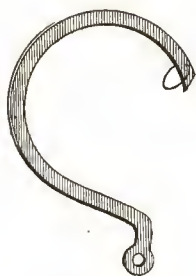
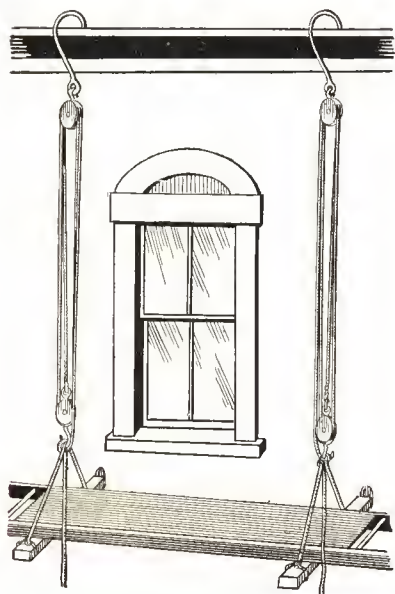

FIG. 42
FIG. 41
**Swing Stage Scaffolds:** Figure 41 shows the old fashioned rope stirrup rigging. The scaffold as a whole consists of a platform twenty inches wide and from ten to twenty feet long. (This platform is an especially strong ladder with planks secured to the rungs.) Cross bars, the timbers under the platform constitute the lower part of the stirrups. They have roller wheels in the ends which are in contact with the building. Then there are the rope stirrups which fasten the cross bars to the lower block as shown in the picture. The falls (pulley blocks and ropes) and the cornice hooks like Figure 42 complete the scaffold.